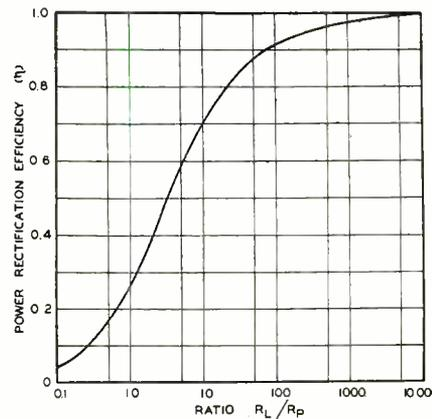

Fig. 7—Theoretical curve of the power rectification efficiency versus the ratio of the rectifier load resistance to internal plate resistance of the rectifier
While not solvable directly, β can be obtained as a function of R_L/R_p from a graphical plot of (16). For our purpose, it is more desirable to plot the rectification efficiency η directly as a function of R_L/R_p ; this is again accomplished graphically and leads to Fig. 7.
The value of R_L is easily determined while R_p can be closely approximated from a plot of the i_p-e_p characteristic of the rectifier tube. The corresponding power rectification efficiency for a given rectifier tube and load is then obtained from Fig. 7. Finally, power output measurements are corrected for this efficiency by use of equation (6), as in Method 1.